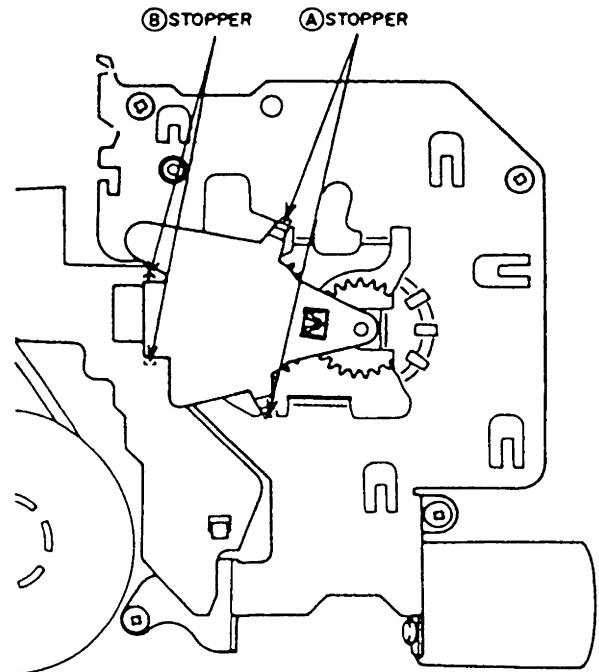

Fig. 3-5
1) Release the two (A) stoppers as shown in Fig. 3-5.